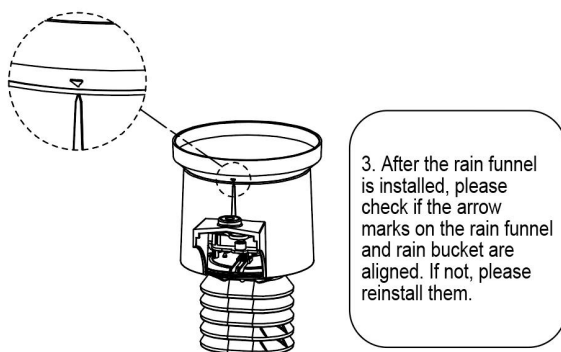

Figure 25
- ✓ Check the rain gauge every 3 months. Please refer to the Figure 25 to disassemble and install the rain gauge. Clean the funnel and bucket with a damp cloth to remove any dirt, debris and insects. Spray the array lightly with insecticide, if there's a bug infestation.